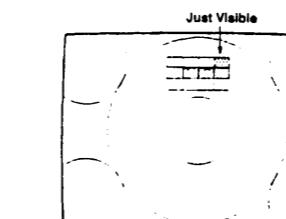

Fig 7.
- Adjust Sub-Brightness (VR301) to get nine step of the grey scale just illuminate in monoscope pattern as shown in fig 7.
Colour Purity Adjustment (see fig 7)